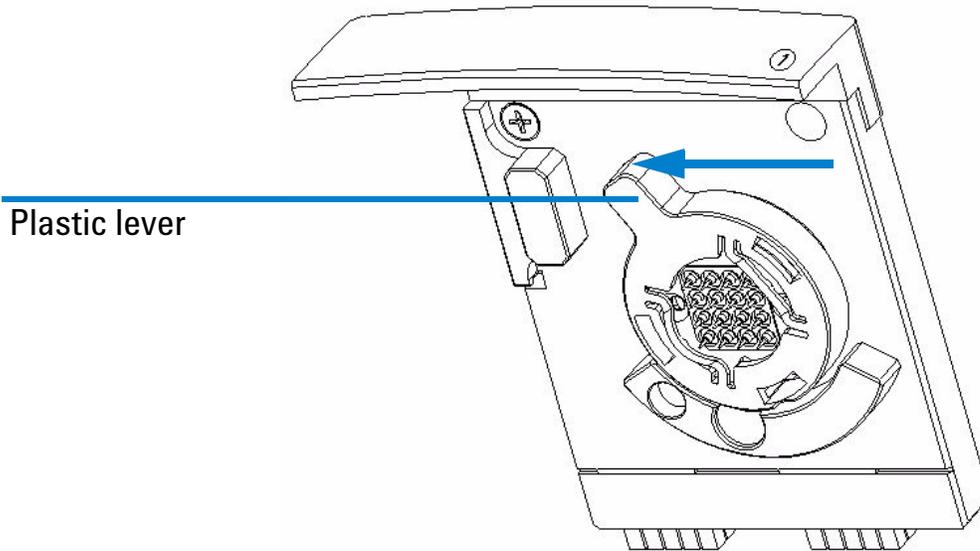

Figure 4 Opening the bayonet socket of the Pin Set
- 4 Open the bayonet socket of the pin set by turning the plastic lever to the left as described in Figure 4, “Opening the bayonet socket of the Pin Set”.